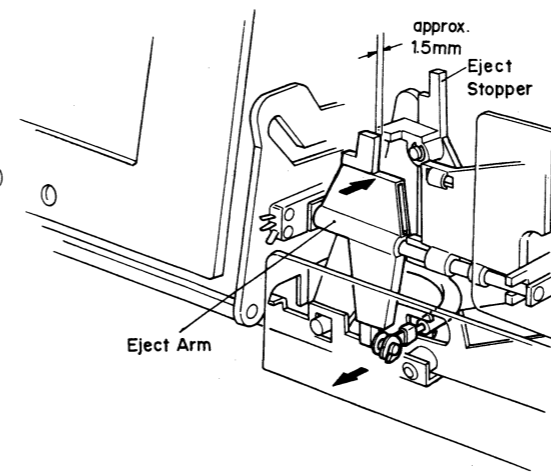

Fig. 5.17.1
- (1) Referring to Fig. 5.17.1, insert a 1.5 mm spacer between the Eject Arm and Eject Stopper by turning the Eject Arm in the illustrated direction, then set the N-580 in playback mode.